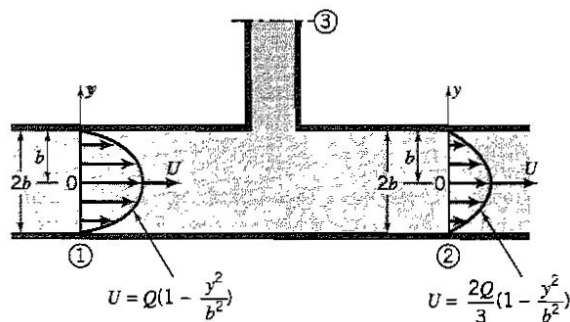

Figure P3.23
3.23 Two rectangular air-conditioning ducts, of constant width W (into the page), meet at right angles as shown in Figure P3.23. The flow is steady and the density is constant. All velocities are normal to the exit and entrance areas. The velocity profiles at stations 1 and 2 are parabolic. Find the mass flow rate at station 3. Is it in or out?